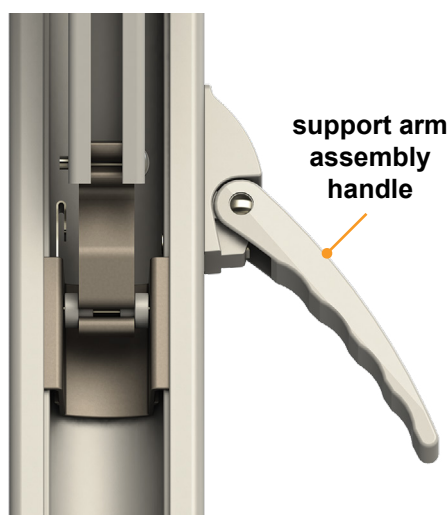
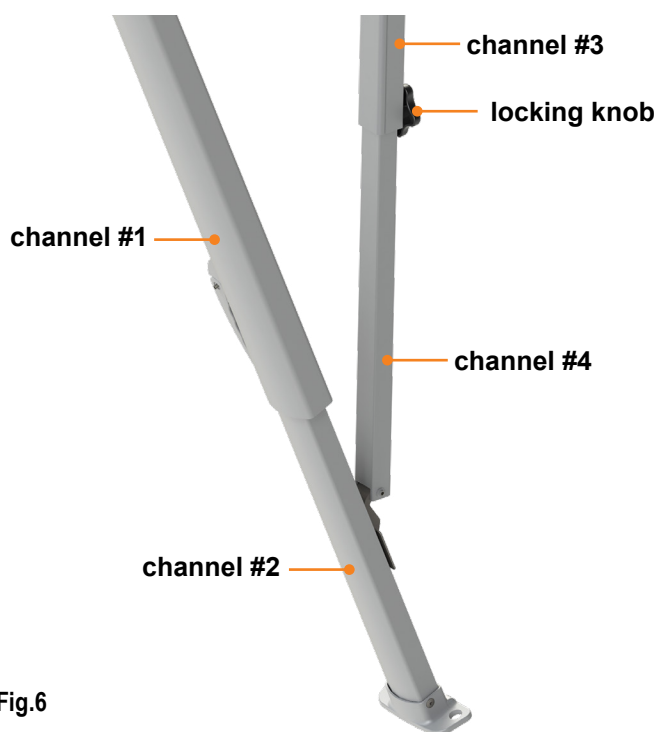

Fig.5
Fig.6
A. Loosen the knob on the rafter arm. Open the support arm assembly handle (Fig.5) and slide the outer arm lower channel #2 (Fig.6) up or down to desired height.
B. Close the handle and slide the outer arm lower channel #2 (Fig.6) until the locking pin clicks into the nearest positioning hole.